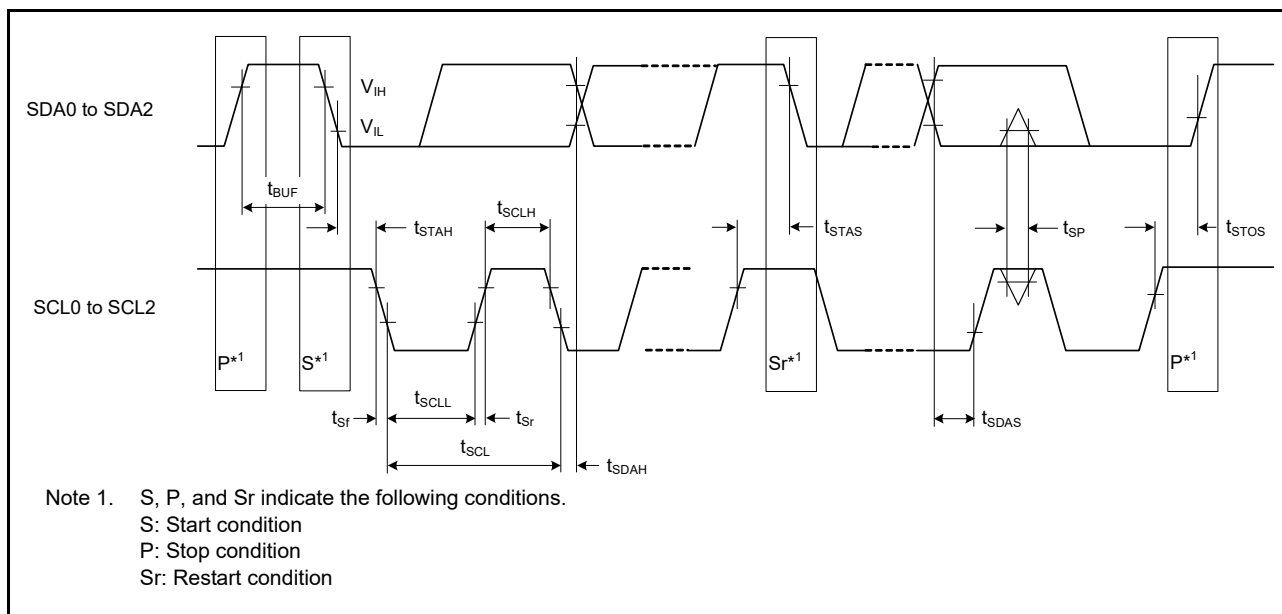

Figure 2.70 I2C bus interface input/output timing
| IIC (standard mode, SMBus) | SCL input cycle time | t_{SCL} | $6 (12) \times t_{IICcyc} + 1300$ | - | ns | Figure 2.70 |
| IIC (Fast mode) | SCL input cycle time | t_{SCL} | $6 (12) \times t_{IICcyc} + 600$ | - | ns | Figure 2.70 For all ports except P408, use PmnPFS.DS CR of middle drive. For port P408, use PmnPFS.DS CR1/DSCR of middle drive for IIC fast-mode. |